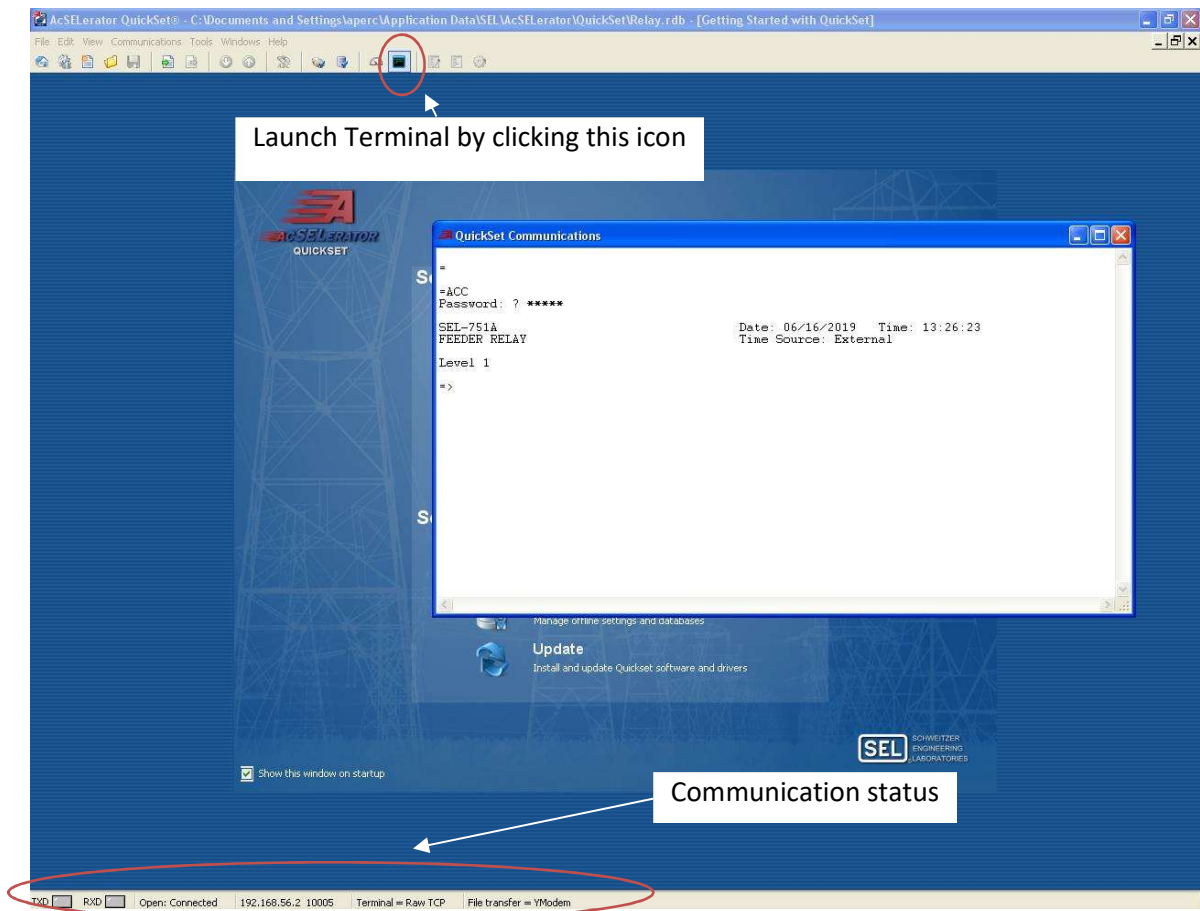

Figure 4.26 Confirming successful communication in QuickSet
- 4) Once the communication between relay and acSELeRator QuickSet is successfully established, the lower portion will state the condition Connected and also list the communication parameters. To ensure that successful communication open Terminal by clicking on its icon on the main menu. When terminal window is opened, and = sign will appear. Type ACC. If communication is established, the Terminal will prompt for Level One password of device (in this case SEL 751-A relay). This is shown in Figure 4.26.